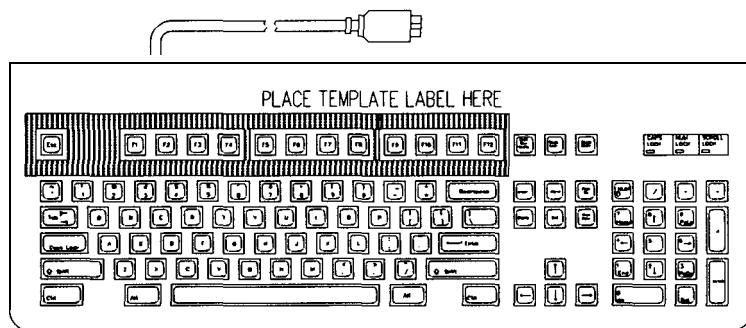

Figure 1 Keyboard Label
9. Clean the keyboard surface to remove dirt and dust. Peel the backing off the Keyboard Label (0692-1 034-01) and place the label around the function keys as shown in Figure 1.